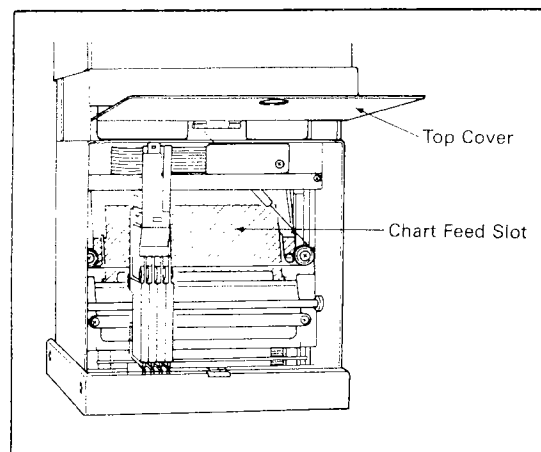

Figure 5-15. Chart Feed Slot.
- (7) After pulling out the chart completely, reset the chart switch (CHART) to the "NORMAL" position.
- (8) Replace the chart support cover (reverse of step (2)).
- (9) If any paper strips remain in the chart feed slot, use a pair of tweezers to remove whole paper strips through the chart feed slot that can be seen when the top cover is open (see Figure 5-15).